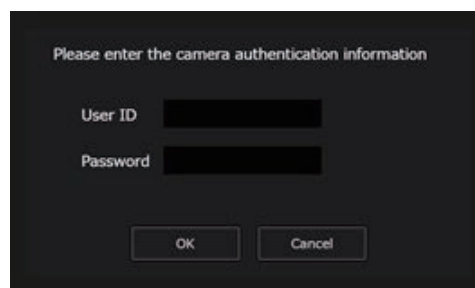

Fig. 4
**5 Enter the user name and password registered in the web screen, then click the [OK] button. (Fig. 4)**